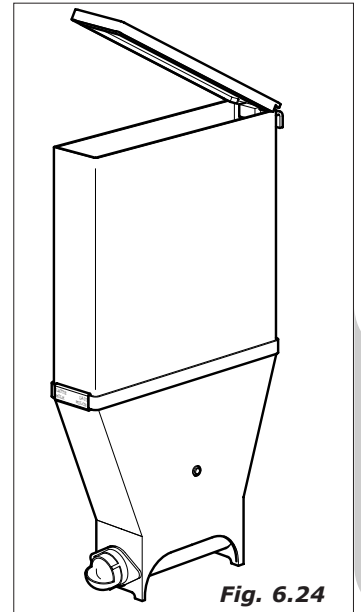

Fig. 6.24
- remove the lids from the product containers covers and product chutes (Fig.6.24). Dip all in the solution previously prepared